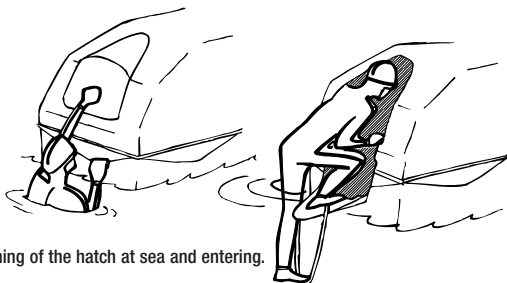

Fig. 2: Opening of the hatch at sea and entering.
1.2.2 BOARDING IN THE WATER. (FIG. 2)